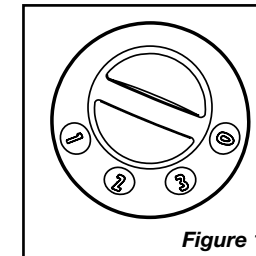

Figure 1
4. Turn the Fan ON by selecting the desired speed with the Power Knob on the top of the Fan. (*Figure 1*)
7. To turn the Fan OFF, turn the Power Knob to OFF (0) and unplug the unit from the electrical unit.